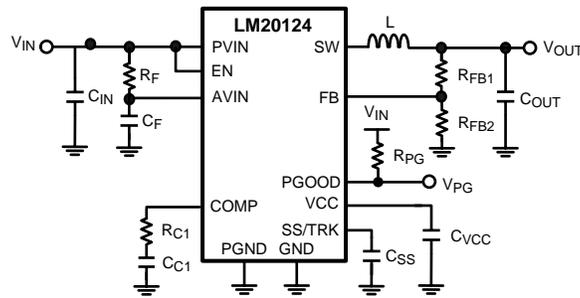

Figure 25. Typical Application Circuit
The LM20124 switching regulator features all of the functions necessary to implement an efficient low voltage buck regulator using a minimum number of external components. This easy to use regulator features two integrated switches and is capable of supplying up to 4A of continuous output current. The regulator utilizes peak current mode control with nonlinear slope compensation to optimize stability and transient response over the entire output voltage range. Peak current mode control also provides inherent line feed-forward, cycle-by-cycle current limiting and easy loop compensation. The fixed 1 MHz operating frequency minimizes the inductor size while still achieving efficiencies up to 96%. The precision internal voltage reference allows the output to be set as low as 0.8V. Fault protection features include: current limiting, thermal shutdown, over voltage protection, and shutdown capability. The device is available in the TSSOP 16-pin package featuring an exposed pad to aid thermal dissipation. The LM20124 can be used in numerous applications to efficiently step-down from a 5V or 3.3V bus. The typical application circuit for the LM20124 is shown in Figure 25 in the design guide.
This section walks the designer through the steps necessary to select the external components to build a fully functional power supply. As with any DC-DC converter numerous trade-offs are possible to optimize the design for efficiency, size, or performance. These will be taken into account and highlighted throughout this discussion. To facilitate component selection discussions the circuit shown in Figure 25 below may be used as a reference. Unless otherwise indicated all formulas assume units of amps (A) for current, farads (F) for capacitance, henries (H) for inductance and volts (V) for voltages.
To prevent high frequency noise spikes from disturbing the sensitive analog circuitry connected to the AVIN and AGND pins, a high frequency RC filter is required between PVIN and AVIN. These components are shown in Figure 25, as C_F and R_F . The required value for R_F is 1Ω. C_F must be used. Recommended value of C_F is 1.0 μF. The filter capacitor, C_F should be placed as close to the IC as possible with a direct connection from AVIN to AGND. A good quality X5R or X7R ceramic capacitor should be used for C_F .